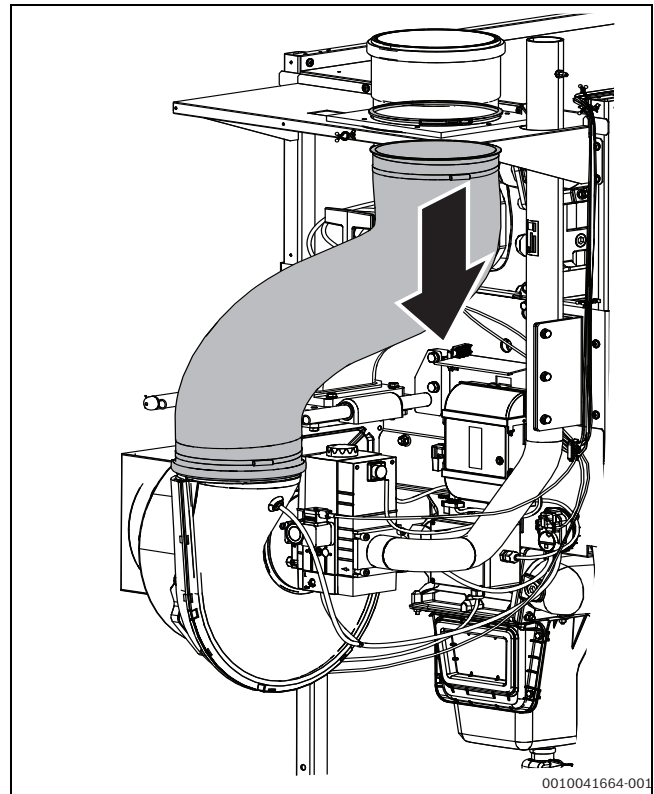

Fig. 4 Remove the air hose to the top
- ▶ Open the hose clamp on the air hose at the top and remove the air hose (→Fig. 4).